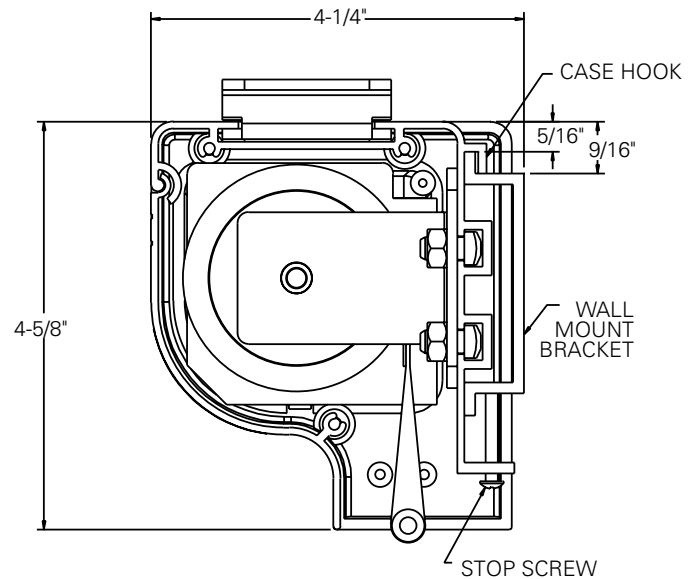

FIGURE 1
2. Make sure the bracket is level. See figure 1 for reference dimensions.
4. Mount the screen case on the wall bracket as shown in figure 1. Be sure the case is fully seated on the bracket. Tighten the stop screws against the wall bracket.